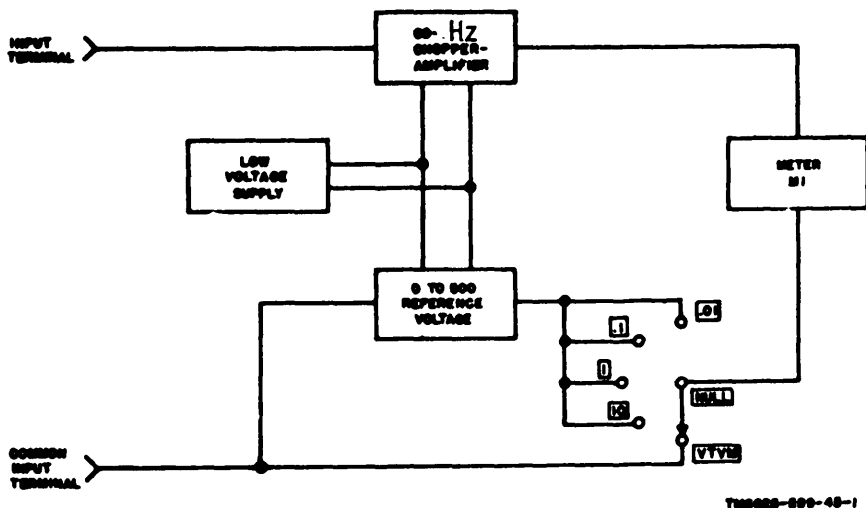

Figure 1-1. Voltmeter, Electronic AN/USM-98(*), block diagram.
(fig. 1-1)
a. Reference Power Supply 0- to 500- Volt (fig. 1-1 and 1-2). The 0- to 500- volt reference voltage is obtained from a +700 volt power supply and a voltage regulator and divider. A part of power transformer T1 and power rectifiers CR101, CR102, and CR103 provide an unregulated +700 volts to the voltage regulator. Series regulator tube V102, differential amplifiers V106 and V105, and voltage reference tube V104 provide a regulated + 500 volts. The reference range voltage divider, the RANGE switch, and the five-decade attenuator provide the desired voltage (0 to 500 volts). This voltage is applied to meter M1 through a voltage divider.
b. Chopper Amplifier 60-Hz (fig. 1-1 and 1-3).
(1) The 60-Hz chopper amplifier is a stable, drift-free dc amplifier. The input voltage to the 60-Hz chopper amplifier is the difference between the 0-to 500- volt reference power supply output and the unknown voltage when the NULL switch is set to 10, 1, .1, or .01. The input voltage is applied directly to the 60- Hz chopper amplifier when the NULL switch
- (2) When the vtvm is used to measure high resistance (fig. 1-1) (from 1 to 500,000 megohms), the resistance being measured is connected to the input terminals of the vtvm. The equipment is operated in the differential voltmeter mode (NULL switch set to 10, 1, or .1), and voltage-divider switches A through E (not shown) are adjusted to apply sufficient internal reference voltage across the unknown resistance to cause meter M1 to indicate off null. This off null reading is noted and the resistance is computed in megohms. (Refer to TM-6625-599-12.)
c. *Low-Voltage Power Supply* (fig. 1-1 and 1-4). The low-voltage power supply consists